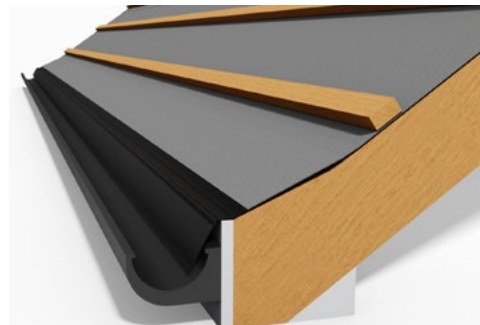

fig 1: Eaves detail
2. Lay Danelaw LR150TT printed side facing outwards, parallel to the eaves with the bottom edge overlapping the support tray (fig. 1) or 5U membrane by 150mm. The edge of the Danelaw LR150TT roof tile underlay should not be exposed to UV once the first course of tiles or slates are installed.